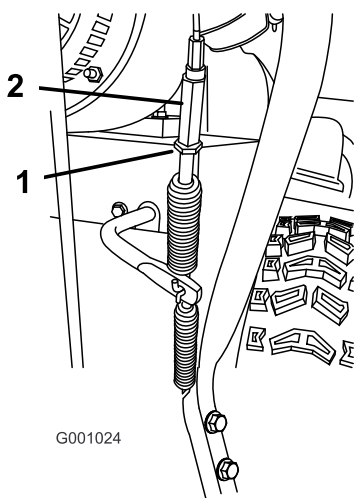

Figure 36
1. Loosen the jam nut (Figure 36).
2. Loosen or tighten the turnbuckle that adjusts the tension on the cable (Figure 36).